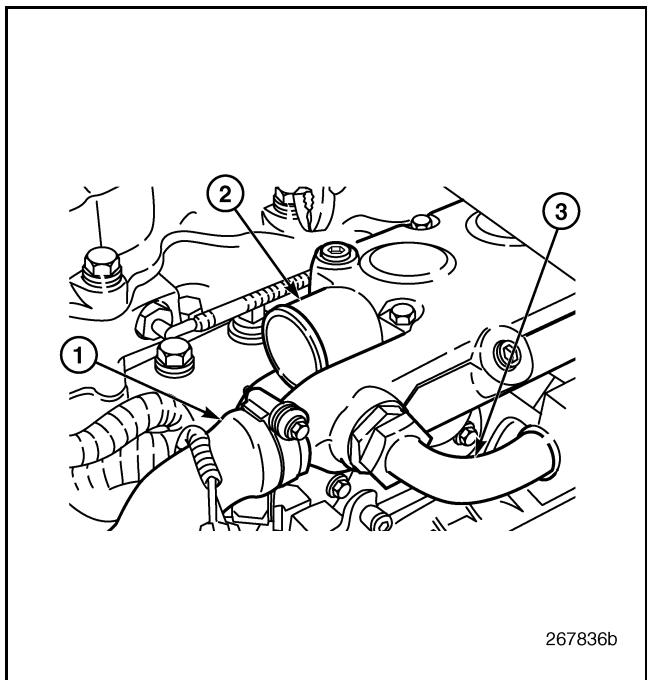

Figure 474 — Thermostat Housing Hose Connections
7. Reconnect the bypass and radiator hoses at the front of the thermostat housing (Figure 474) and reconnect the surge tank hose. Tighten all hose clamps to specifications.